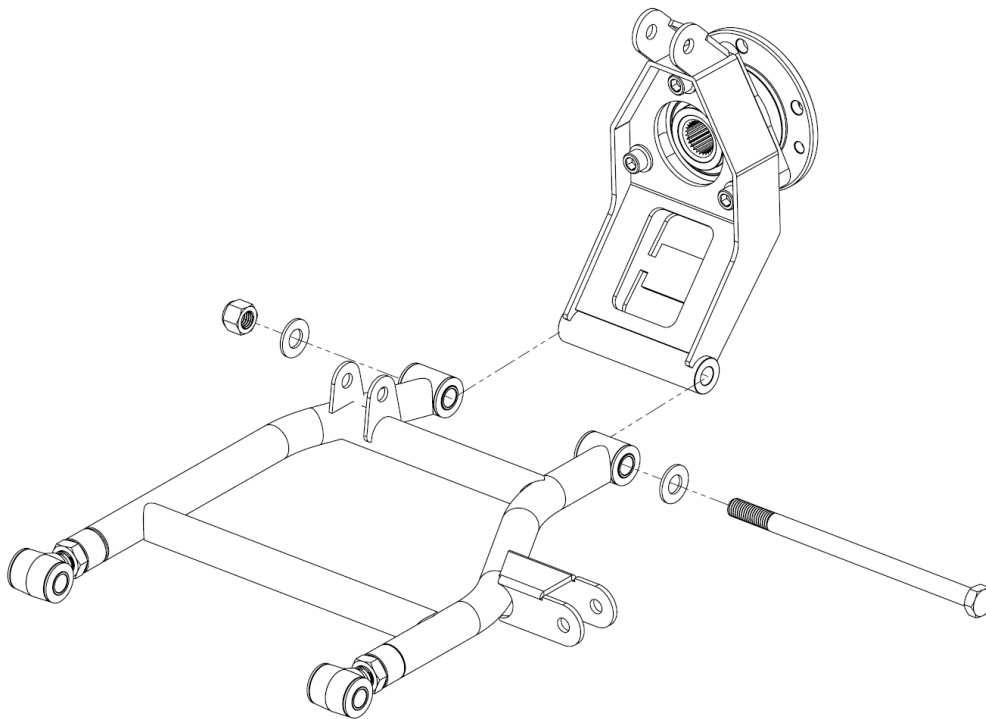

Figure 4. Assemble the upright to the lower arm using the 5/8 X 10-1/2" bolt and hardware.
- 6) Assemble the uprights to the lower control arms using the supplied 5/8" X 10 ½" long bolts. A washer should be used on the outside of the bushings as shown in **Figure 4**.